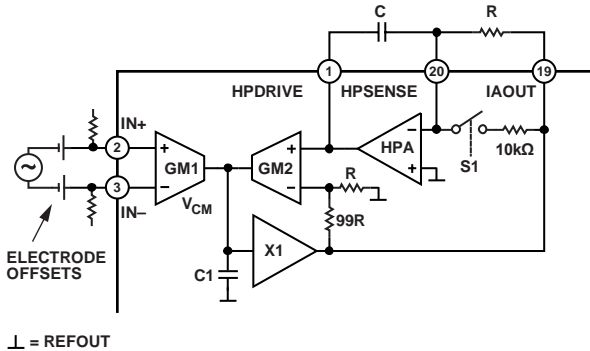

Figure 52. Eliminating Electrode Offsets
Radio frequency (RF) rectification is often a problem in applications where there are large RF signals. The problem appears as a dc offset voltage at the output. The AD8232 has a 15 pF gate capacitance and 10 k Ω resistors at each input. This forms a low-pass filter on each input that reduces rectification at high frequency (see Figure 52) without the addition of external elements.
To achieve offset rejection, connect an RC network between the output of the instrumentation amplifier, HPSENSE, and HPDRIVE, as shown in Figure 52.